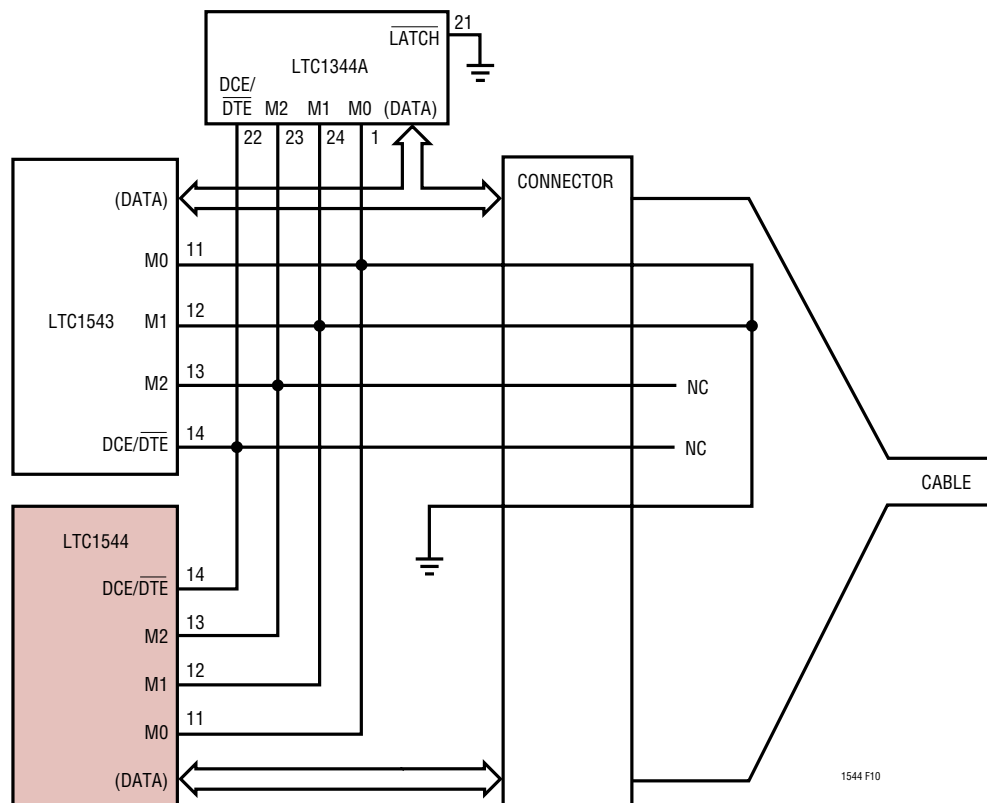

Figure 10: Single Port DCE V.35 Mode Selection in the Cable
unconnected (1) or wired to ground (0) in the cable as shown in Figure 10.